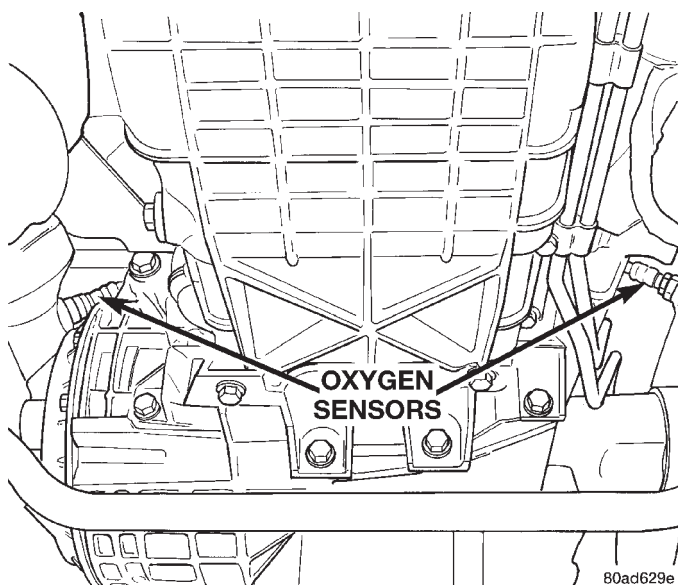

Fig. 44 Downstream Heated Oxygen Sensors
(17) Ensure the electrical connectors are attached to the downstream heated oxygen sensors (Fig. 44).